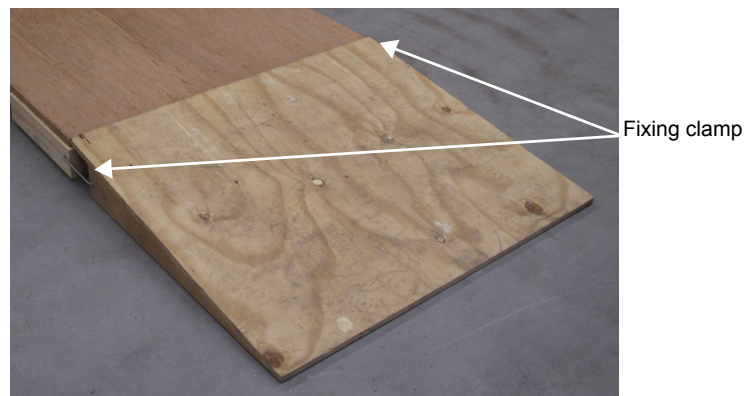

Fig. 3-10 Fixing clamps attaching the ramp
- Attach the ramp to both sides of the pallet using the fixing clamps (→ Fig. 3-10).